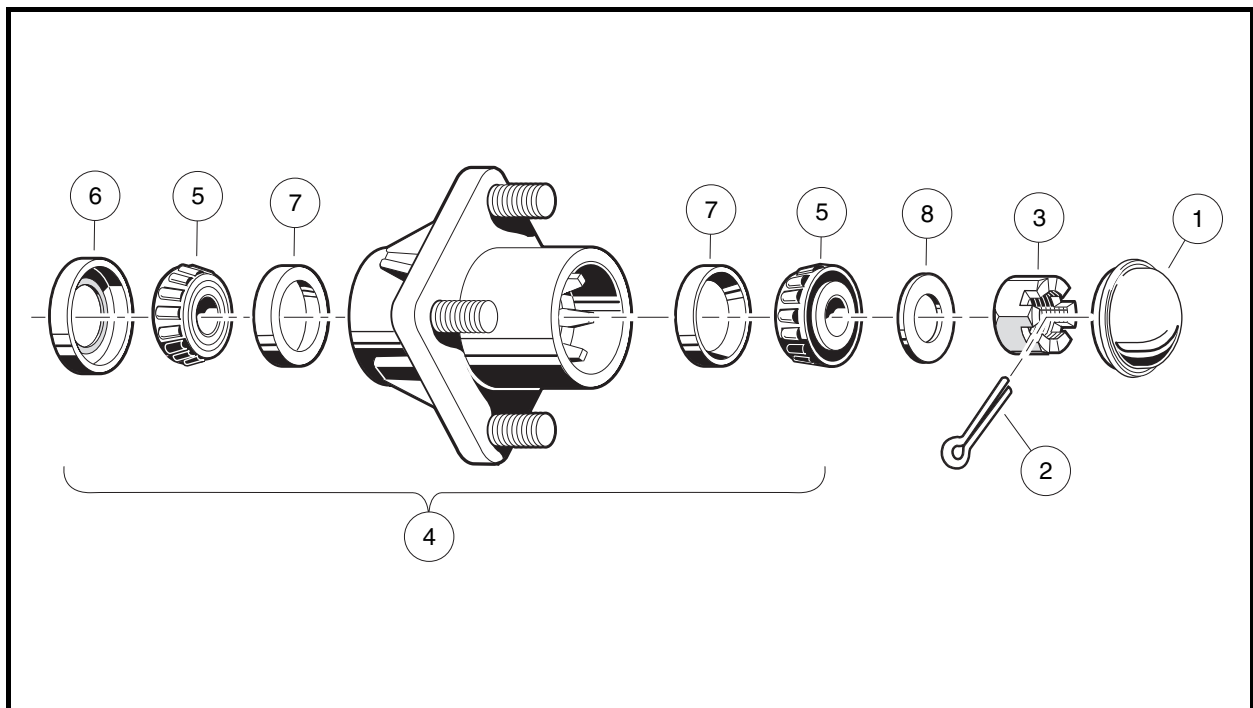

Figure 7-25 Front Wheel Bearings and Hub
2. Using your hands, attempt to rock the wheel and hub assembly back and forth on the spindle. If there is any observable movement of the wheel and hub on the spindle, remove dust cap (1) and cotter pin (2), and then tighten the spindle nut (3) until the bearing (5) fully seats in the bearing race (7).
4. Install a new cotter pin (2). If movement continues, replace the wheel bearings (5) as required (Figure 7-25, Page 7-23).
- 2.1. Remove dust cover (1), cotter pin (2), spindle nut (3), and flat washer (8) (**Figure 7-25, Page 7-23**).
1. Pack the wheel bearings (5) and hub cavities, and lubricate cups (7) with wheel bearing grease or chassis lube. Make sure the grease is forced between the rollers (**Figure 7-25, Page 7-23**).
2. If bearing cups (7) were removed, press new ones in squarely against stops in the hub. **See following NOTE.**
3. Install the wheel bearings (5) into the hub and install a new seal (6), with the metal edge toward the hub. **See following NOTE.**
4. Install the hub assembly (4) and flat washer (8) on the spindle and start the spindle nut (3).
5. Tighten the spindle nut until the hub is hard to turn, then back the nut (3) off until the hub turns freely. Install a new cotter pin (2). **See following NOTE.**
7. Install the dust cap (1).